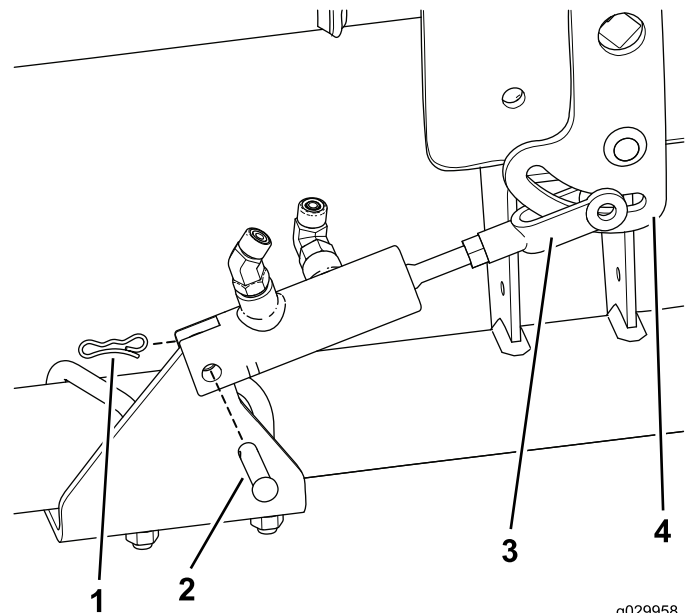

Figure 8
- Connect the hydraulic cylinder to the cylinder mount with the clevis pin and the locking-cotter pin (Figure 8).
- Arrange the holes in the yolk linkage around the slot in the traction lever (Figure 8).